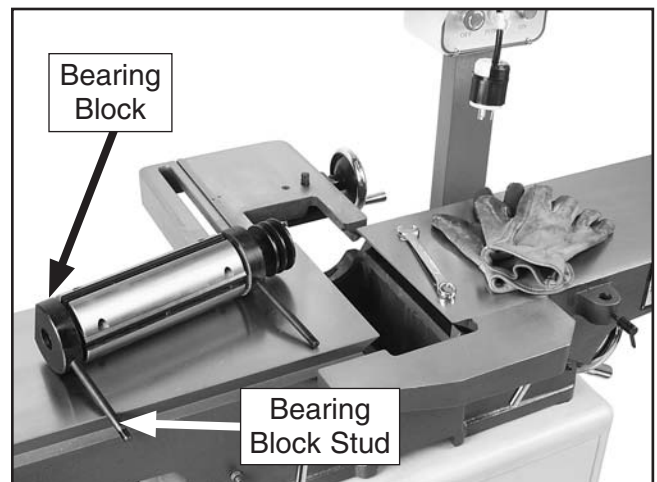

Figure 5. Example of cutterhead removed.
6. Wearing heavy leather gloves, carefully remove the cutterhead from the casting (see **Figure 5**).